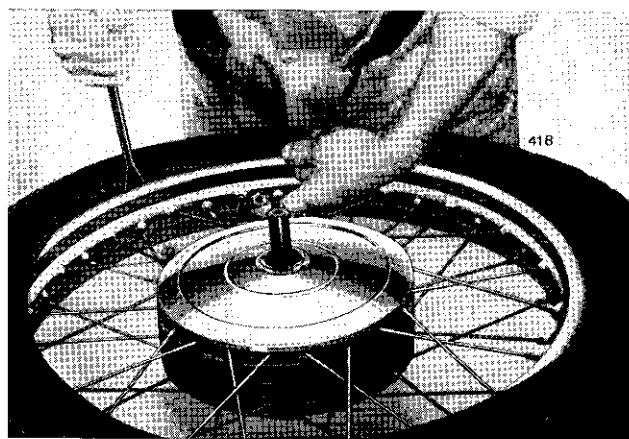

Fig. F20. Refitting the second bead with the security bolt in position
- (4) Partly inflate the inner tube and fit it into the tyre.
- (5) Fit the second bead but keep the security bolt pressed well into the tyre, as shown in Fig. F20, and ensure that the inner tube does not become trapped at the edges.
- (6) Fit the valve stem nut and inflate the tyre.
- (7) Bounce the wheel several times at the point where the security bolt is fitted and then tighten the security bolt nut.